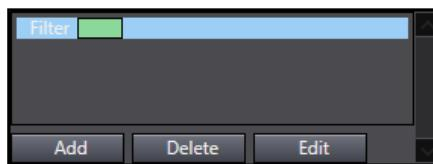

Figure 8-280 Color Matching Filters Pane
1. Right-click and drag in the image on the right to return the average color from the resulting rectangular region. For example, the Color in Figure 8-280 was created by clicking and dragging within one of the green-tinted bread slices of the corresponding image.